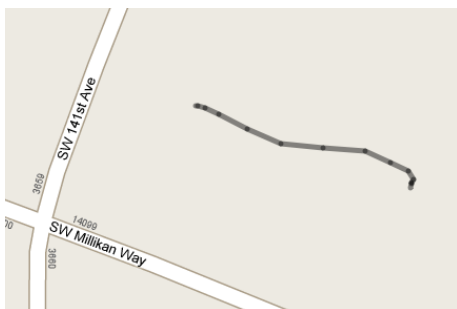

Figure 2 Acceleration data in Google Maps
4. The default data-collection mode is Time Based. See Figure 2 for sample results after mapping in Google™ Maps.
2. Mapping a line. Use this style for mapping a sensor column of data such as acceleration of a car in a parking lot as shown in Figure 2.